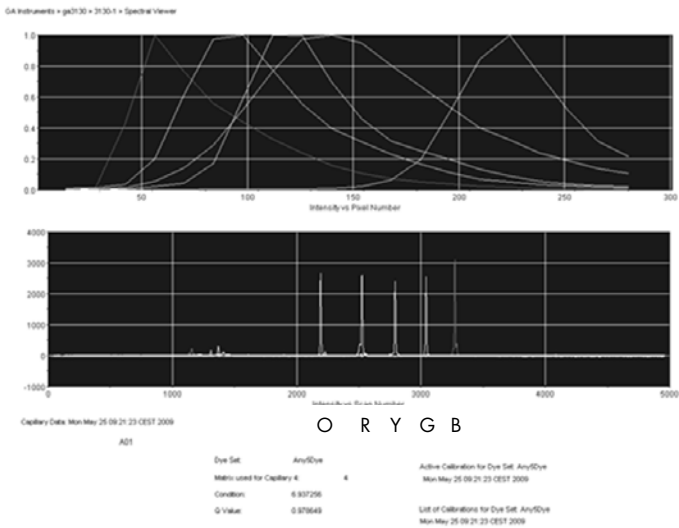

Figure 2. Electropherogram of spectral calibration with matrix standard BT5 on an Applied Biosystems 3130 Genetic Analyzer.
2. Check for a flat baseline in the matrix samples. As shown in Figure 2, there should be 5 peaks with peak heights of about 1000-5000 RFU in each matrix sample.